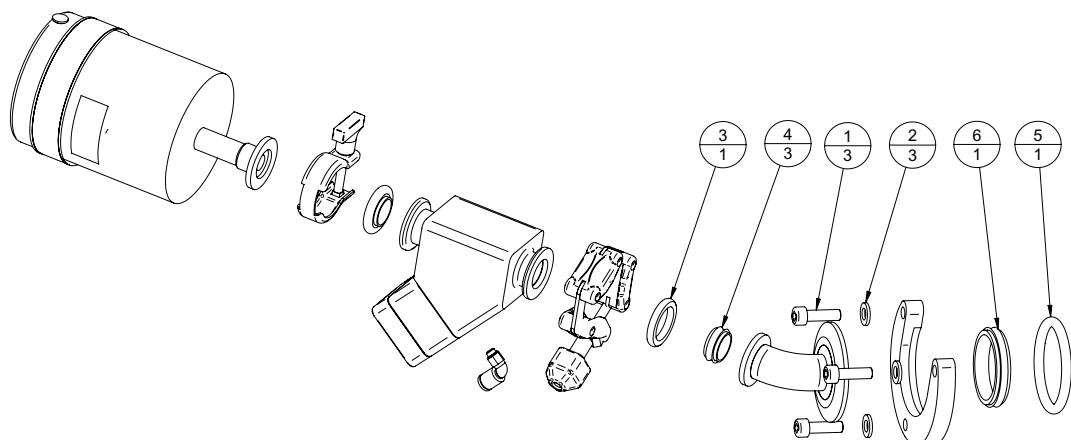

Figure 4.13 Process Pressure Gauge Assembly
1. Refer to Figure 4.13.
2. Remove three M6 x 20 screws (1) and washers (2) and remove the process pressure gauge assembly.
6. Refit the assembly to the chamber using screws (1) and washers (2).